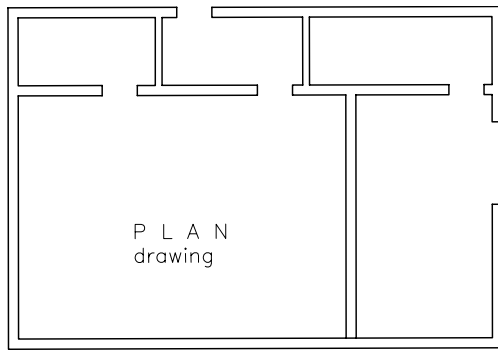
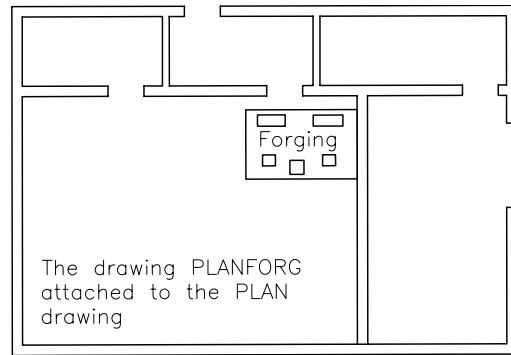

Figure 2-21 The PLAN drawing
Figure 2-22 The PLAN drawing after attaching the PLANFORG drawing
4. Open the drawing file PLAN, refer to Figure 2-21, and select the **Attachment** radio button in the **Attach External Reference** dialog box, which is displayed when you select the PLANFORG drawing in the **Select Reference File** dialog box to attach it as an xref to the PLAN drawing. You will notice that only the PLANFORG drawing is attached, refer to Figure 2-22. The drawing that was overlaid in the PLANFORG drawing (PLAN) does not appear in the current drawing. This way, the CAD operator working on the PLANFORG drawing can overlay the PLAN drawing, and the CAD operator working on the PLAN drawing can attach the PLANFORG drawing, without causing a circular reference.